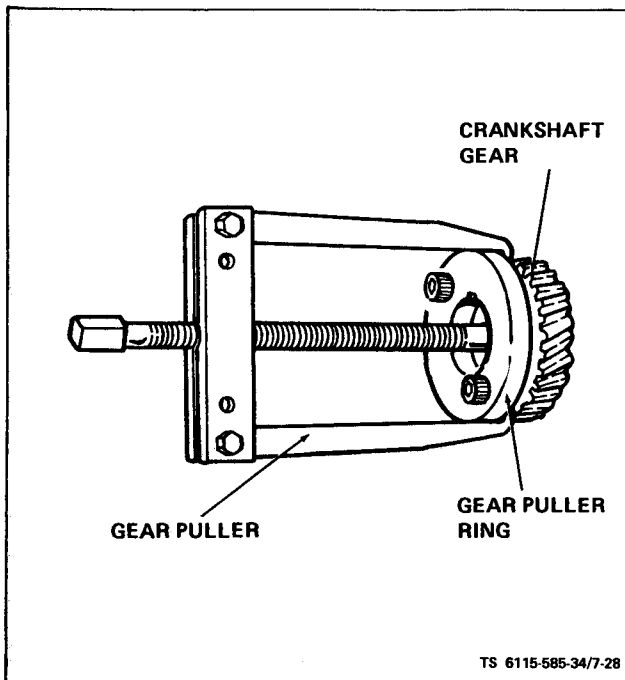

Figure 7-28. Crankshaft Gear Removal
(8) Refer to paragraph 7-10 and remove oil base.
(9) Refer to paragraph 7-11 and remove oil pump cup assembly.
(10) Remove lock ring (15) and retaining washer (16) in front of crankshaft gear (17).
(11) Pull off crankshaft gear. It has 2- 1/4-20 UNC tapped holes for attaching a gear pulling ring (see figure 7-28). Use care not to damage teeth if gear is to be re-used. Remove woodruff keys (26, figure 7-15).
(12) Refer to paragraph 7-10 and remove connecting rod and piston assemblies.